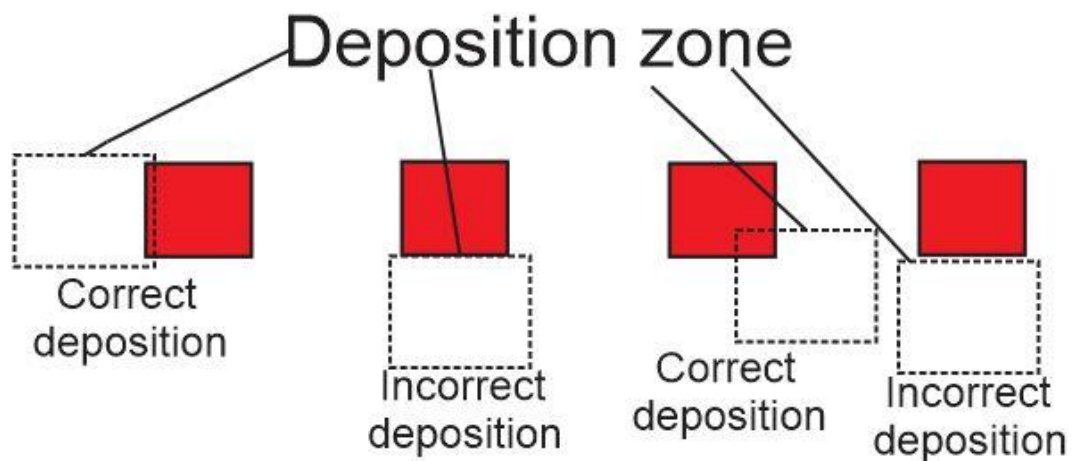

Figure 13: Correct Deposition of Services
- A room is considered as serviced even if the Service is partially placed within the boundary of an empty Deposition Zone (Refer to Figure 13).